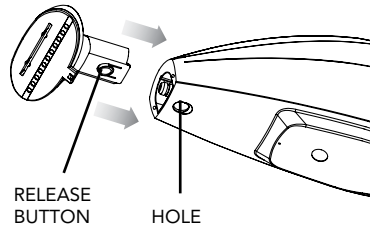

FIGURE 7
1. Align Fabric Nozzle with Steam Nozzle as shown FIGURE 7).